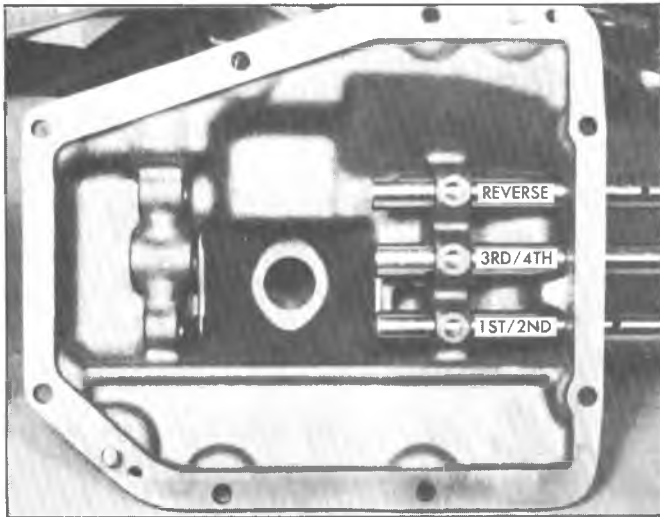

Fig. 7Q-Shifter Shaft Installation
1. In reassembling the transmission cover, care must be used in installing the shifter shafts. They should be installed in the order shown in Fig. 7Q, namely, reverse 3rd-4th, and 1st-2nd.